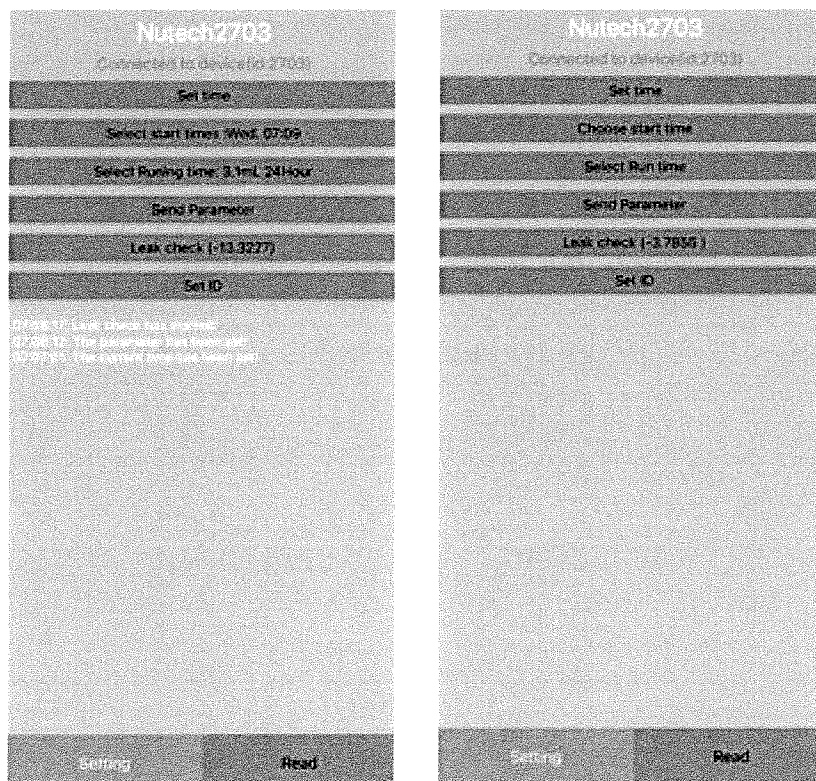

Figure 12: Starting and ending screens on the Nutech 2703 controller's phone application.
- From the Nutech 2703 application's home screen select Set Time, which synchronizes the time between the application and the Nutech 2703 controller (Figure 12).
- The left picture in Figure 12 shows how the Nutech 2703 application will look when the sample has started to run. When returning 24 hours later, the Nutech 2703 application will look like the picture on the right. Note the difference in sampler canister pressures (located in parentheses next to Leak Check) from the left picture to the right.